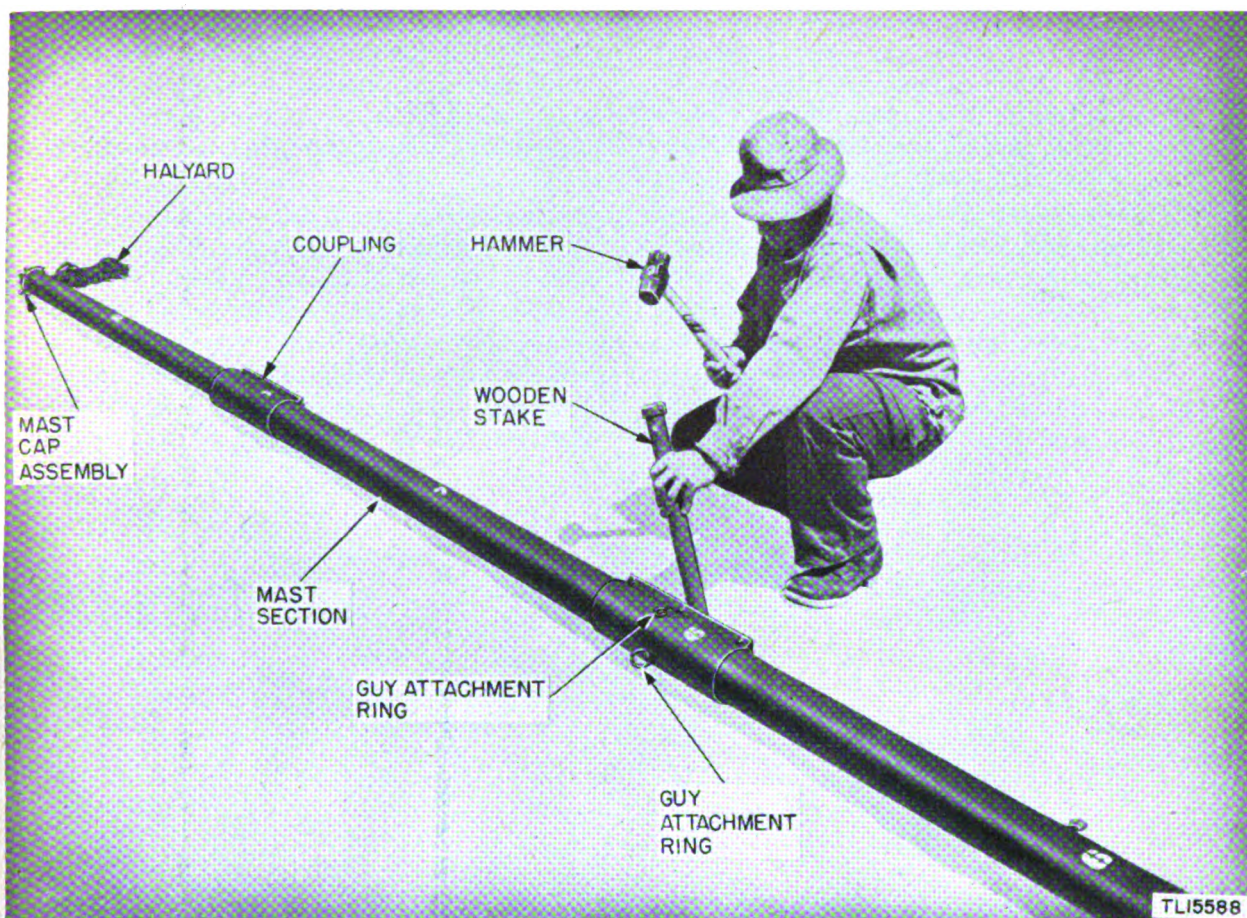

Figure 11. Positioning of first stake.
- (1) Drive a stake midway and adjacent to section 6 (fig. 11).
- (2) Using a guy rope of suitable length as a standard, measure the distance from this stake to one side of the base plate.
- (3) Now measure a similar distance from the base plate, using each of the three remaining sides of the base plate as a starting point. At each of these other points drive a stake. These stakes will form a square, with each stake point about 35 feet distant from the base plate.